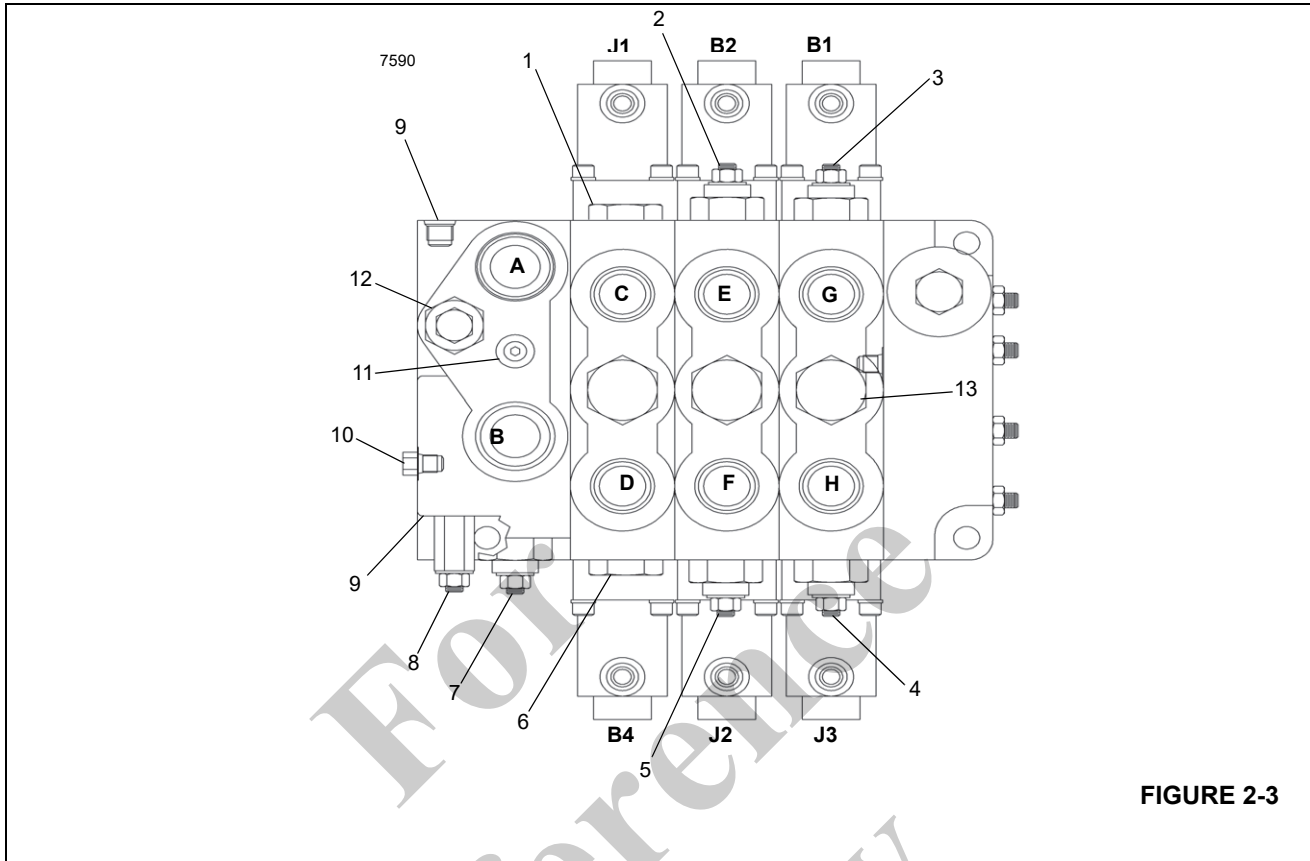

FIGURE 2-3
4. Try to hoist up or down. Adjust relief valves on the main control valve (Figure 2-2 & Figure 2-3) to 26200 ± 689 kPa (4300 ± 100 psi).
3. Set the boom down relief valve on the main control valve (Figure 2-2 & Figure 2-3) to 6894 ± 689 kPa (1000 ± 100 psi).
5. Set the boom up relief valve on the main control valve (Figure 2-2 & Figure 2-3) to 24821 ± 689 kPa (3600 ± 100 psi).
4. Adjust the telescope extend relief valve on the main control valve (Figure 2-2 & Figure 2-3) to 19994.8 ± 689 kPa (2900 ± 100 psi).
6. Adjust the telescope retract relief valve on the main control valve (Figure 2-2 & Figure 2-3) to 15513 ± 689 kPa (2250 ± 100 psi).